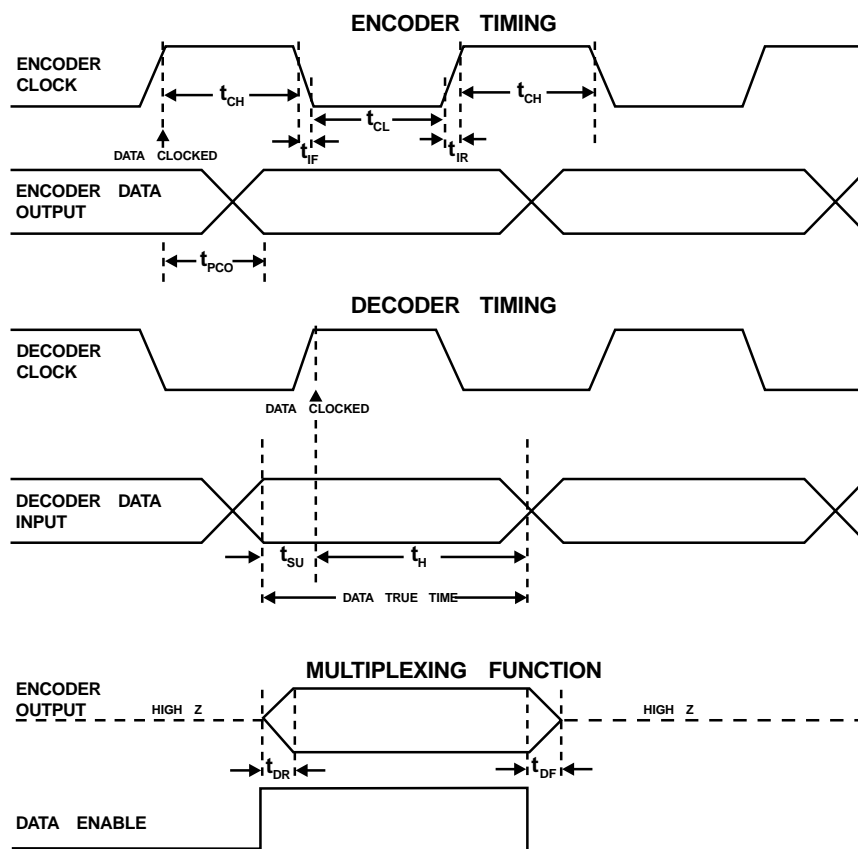

Figure 4: Serial Bus Timing
11. In general, optimum CODEC performance is achieved when both encoder and decoder Xtal/Clock signals are synchronized. While this is practical in many telecom applications it may not be in others such as wireless data links. The CMX639 decoder can generally deliver best performance when its data clock is recovered/derived from the received data stream and applied as an external data clock to the decoder per the decoder timing depicted in Figure 4. Nonetheless, some Xtal/Clock frequency and data rate combinations are better served by the use of internal clocks. Experimentation with each specific design may provide the best guidance for making this design choice.